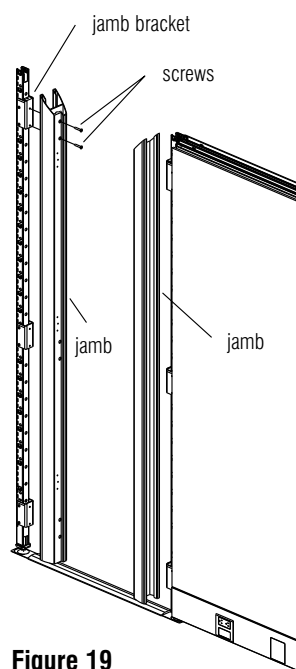

Figure 19
4. Align the countersunk holes on each of the jambs with the threaded inserts on the jamb brackets. Use two (2) screws provided to attach the jamb to each jamb bracket. **Figure 19.**